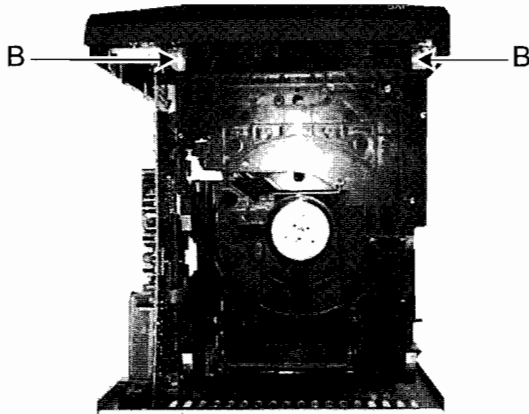
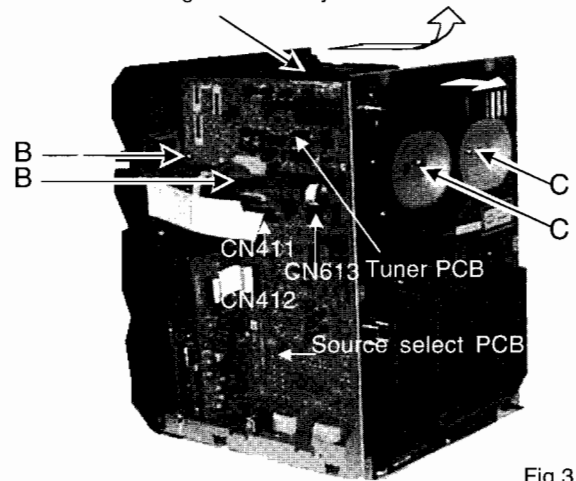

Fig.2
Fig.3
- 1.Remove 2 screws(B)fasteing up side(Fig.2).
- 3.Remove 2 screws(B) holding the PCB's.
- 5.Remove the changer mechanism ass'y(Fig.3).